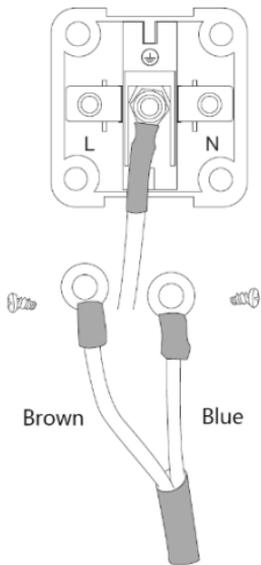

**Fig. 2**
- Align the arrows on the track pendant with the polarity groove on the track, push into the track and rotate anti-clockwise (see Fig. 2).